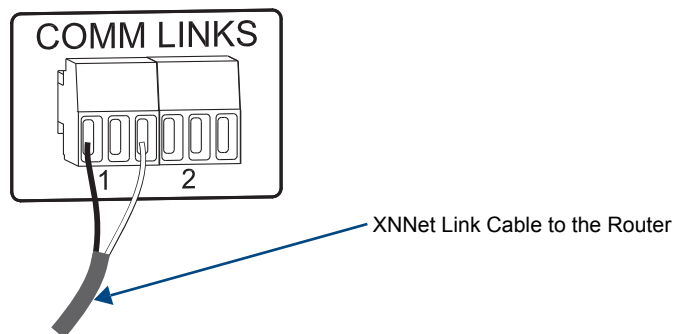

FIG. 9 Insert the wires into a Comm Link
3. Insert the two wires of the XNNet cable into the two outer slots of the connector, leaving the center slot empty (FIG. 9).